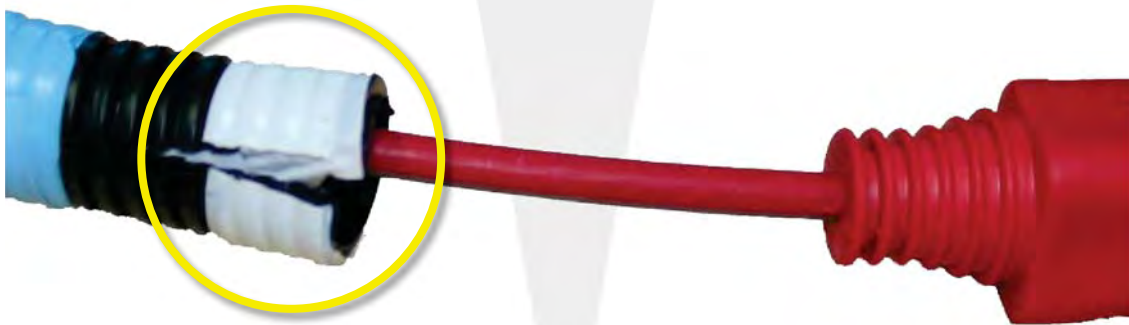

Figure 3
1. Cut and remove the white tape on the jump post side of the corrugated tubing (Figure 3).